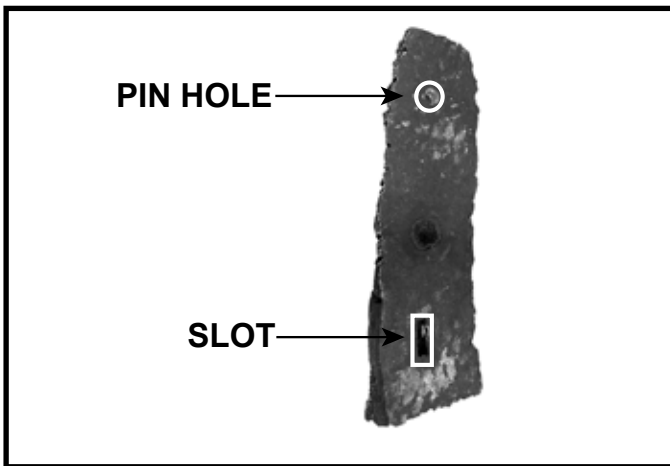
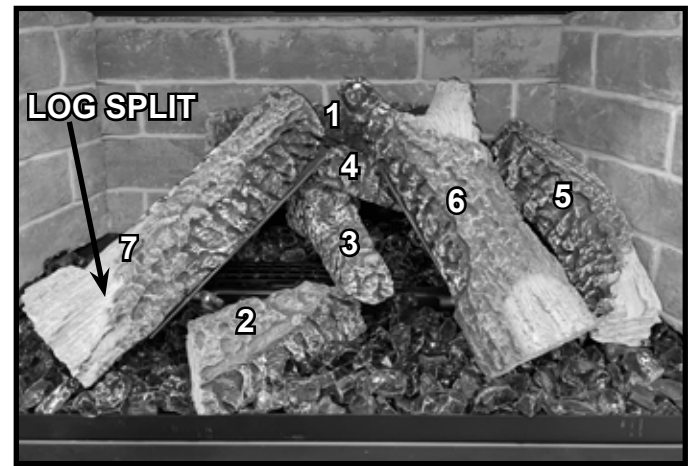

Figure 14 Log #7 Pin Hole and Slot
Figure 15 Log #7 Installed
**LOG #7:** Log #7 has a pin hole and a slot on the bottom of the log. See Figure 14. Engage the pin hole and the slot with the pins on the left side burner pan as shown in Figure 15. Ensure the larger end of the log is placed at the bottom of the burner.